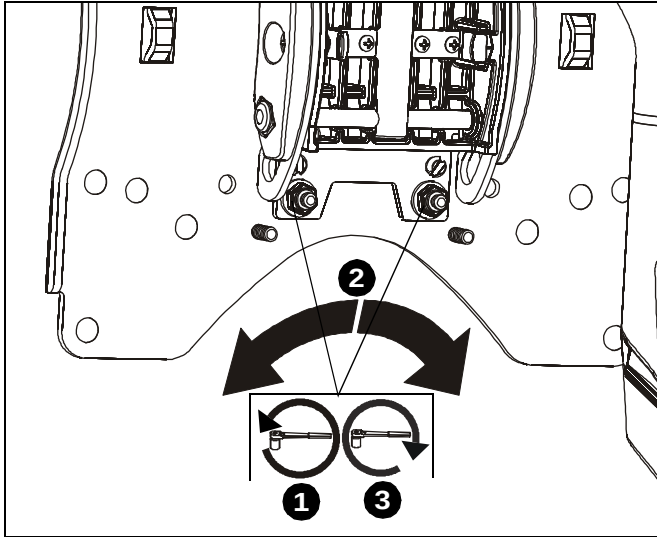

Figure 17
**NOTE:** If flange nuts (N) were not fully tightened when display was installed, the roll may be adjusted manually without loosening the nuts further.
1. Loosen two flange nuts (N) to decrease roll tension. (See Figure 17)
2. Adjust roll position of display as desired. (See Figure 17)
3. Tighten two flange nuts (N) to increase roll tension, if desired. (See Figure 17)